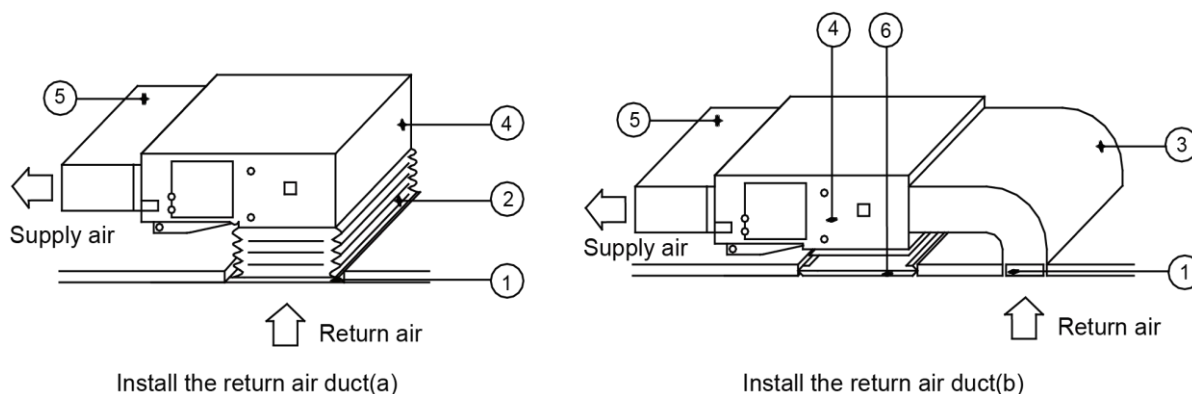

Figure 3-1-22
- (3) If the bottom return air is desired, just change the place of the rectangular flange and the return air cover plate.
- (4) Connect one end of the return air duct to the return air outlet of the unit by rivets and the other to the return air louver. For the sake of the convenience to freely adjust the height, a cutting of canvas duct will be helpful, which can be reinforced and folded by 8# iron wire
- (5) More noise is likely to be produced in the bottom return air mode than the backward return air mode, so it is suggested to install a silencer and a static pressure box to minimize the noise.
- (6) The installation method can be chosen with considering the conditions of the building and maintenance etc., as shown in Figure 3-1-22.